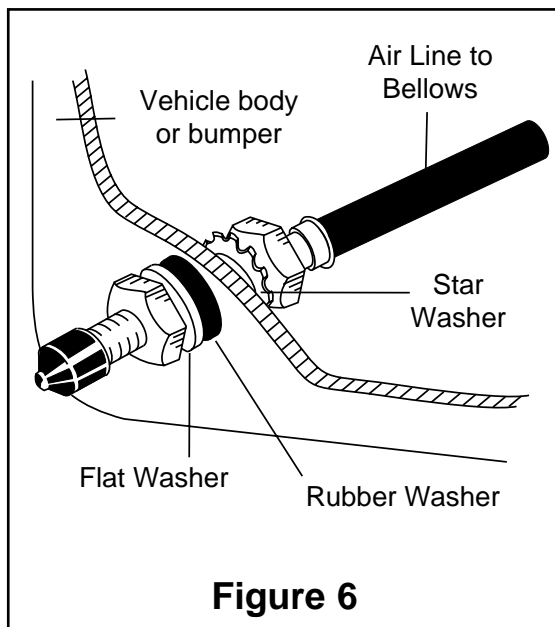

Figure 6
B. Use a standard tube cutter, a razor blade, or very sharp knife to cut the air line assembly into two equal parts. A clean square cut will ensure against leaks. Drill 5/16" hole for inflation valves and mount as illustrated. Rubber washer on outside is for weather seal (Figure 6).